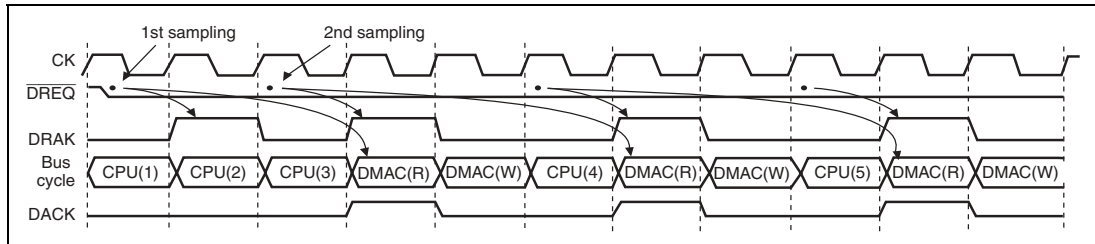
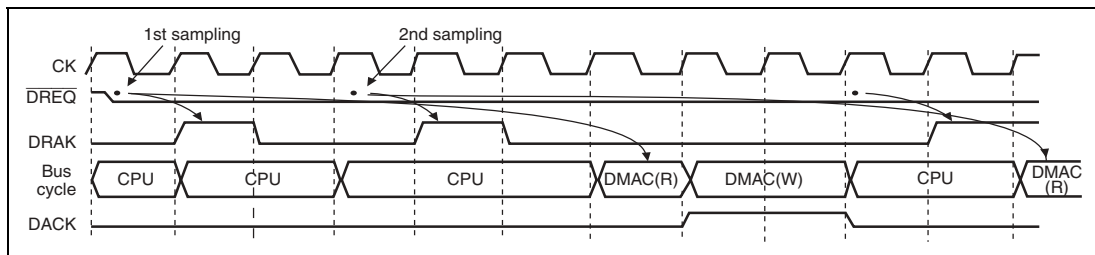

**Figure 10.14 Cycle Steal, Dual Address and Level Detection (Fastest Operation)**
**Figure 10.15 Cycle Steal, Dual Address and Level Detection (Normal Operation)**
For example, DMAC transfer begins (figure 10.14), at the earliest, three cycles from the first sampling timing. The second sampling begins at the start of the transfer one bus cycle prior to the start of the DMAC transfer initiated by the first sampling (i.e., from the start of the CPU(3) transfer). At this point, if DREQ detection has not occurred, sampling is executed every cycle thereafter.
As in figure 10.15, whatever cycle the CPU transfer cycle is, the next sampling begins from the start of the transfer one bus cycle before the DMAC transfer begins.
Figure 10.14 shows an example of output during DACK read and figure 10.15 an example of output during DACK write.